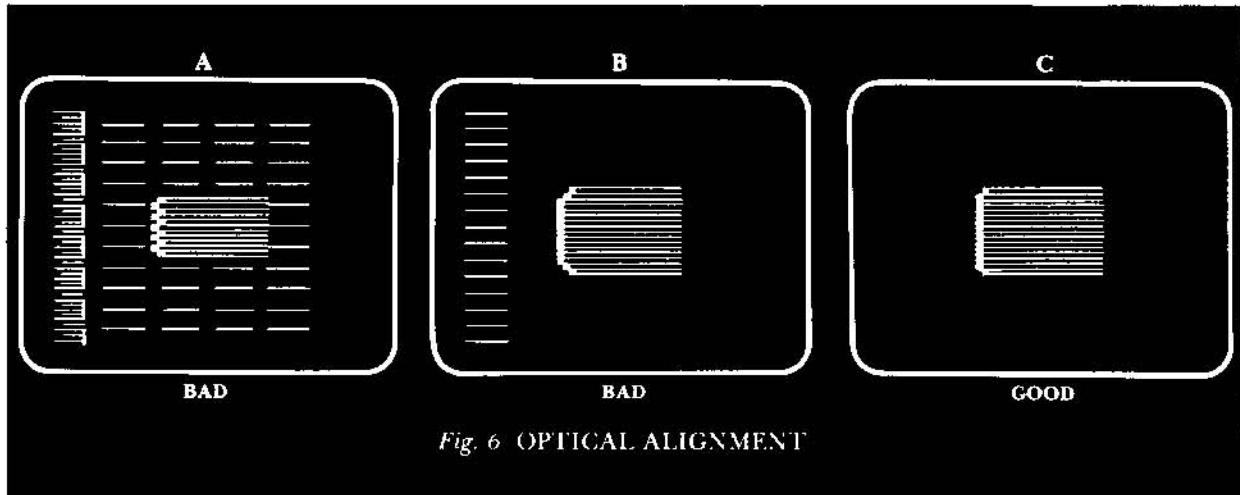

Fig. 6 OPTICAL ALIGNMENT
6. Aim the Gun to the center of the screen, an orange rectangular pattern with a brown leading edge should be displayed (See Fig. 6-C).
7. Turn sensitivity control CCW until oscillation and an orange rectangular pattern are displayed (See Fig. 6-A). Now turn sensitivity control CW until oscillation diminishes just beyond this oscillation point (See Fig. 6-B), from this point turn sensitivity control CW approx. $\frac{1}{4}$ turn more. This should be the optimum setting.